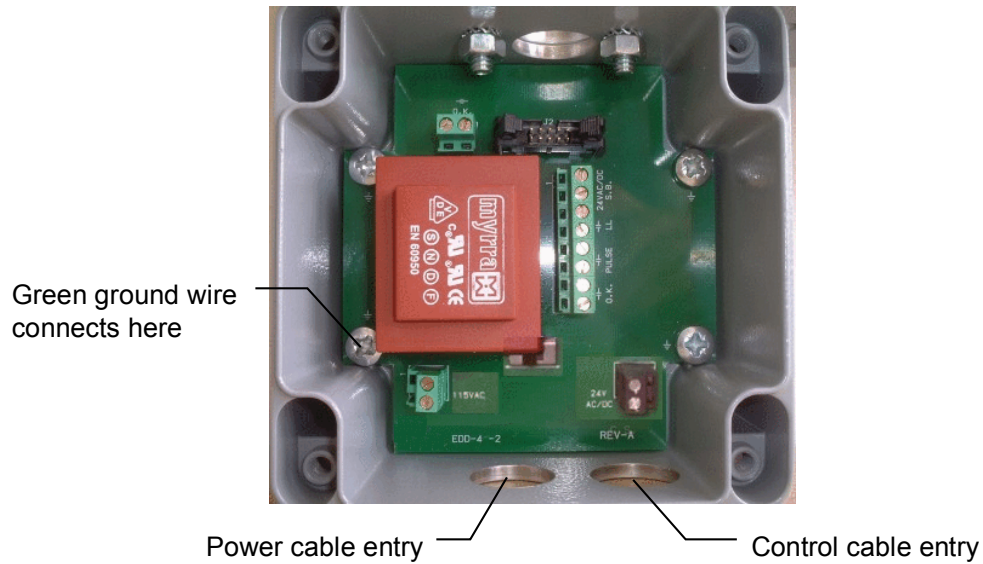

Figure 4: Connection box – cable routing
2. Route the power cable through a cable strain relief on the left side of the connection box (Figure 4).
3. Connect the green ground wire to a chassis screw or bolt, preferably using a ring terminal. See Figure 4.
4. Route the control cable through the right cable strain relief (Figure 4).